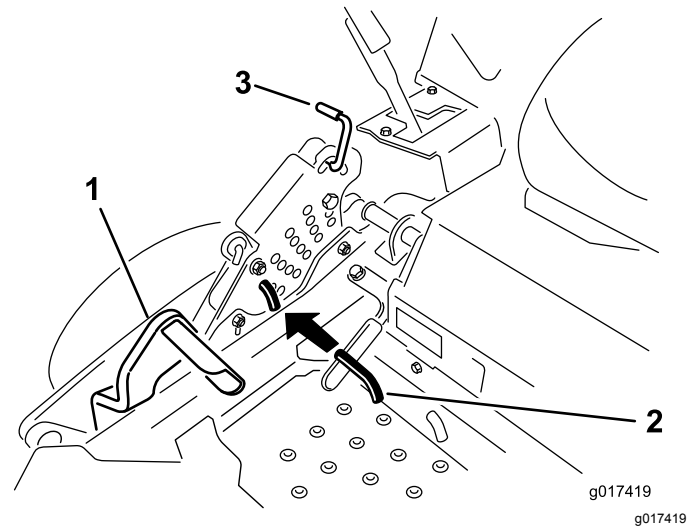

Figure 72
5. Push the deck-lift pedal all the way forward so the deck latches at the 14 cm (5-1/2 inch) transport position (Figure 72).